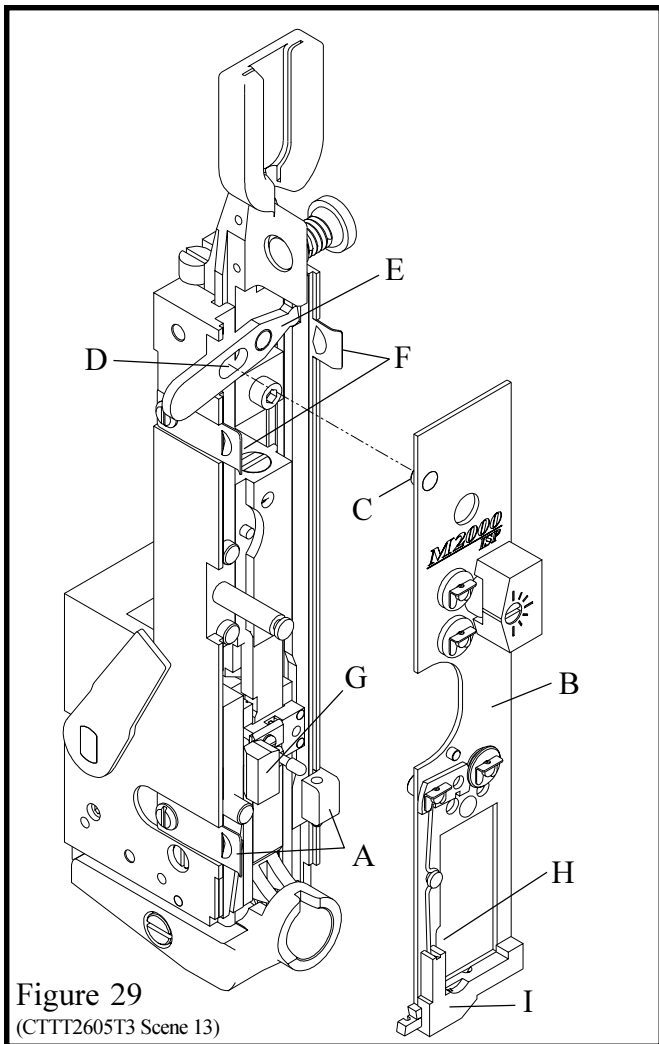

Figure 29
NOTE: (Figure 29)
7. Loosen the two face plate retaining clips (Index A, Figure 29) and rotate them downward.